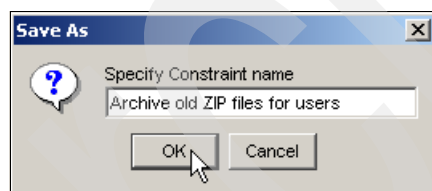

Figure 2-63 Save archive constraint
12. Save the new constraint with Ctrl+S and give it a name as in Figure 2-63. Click **OK**.